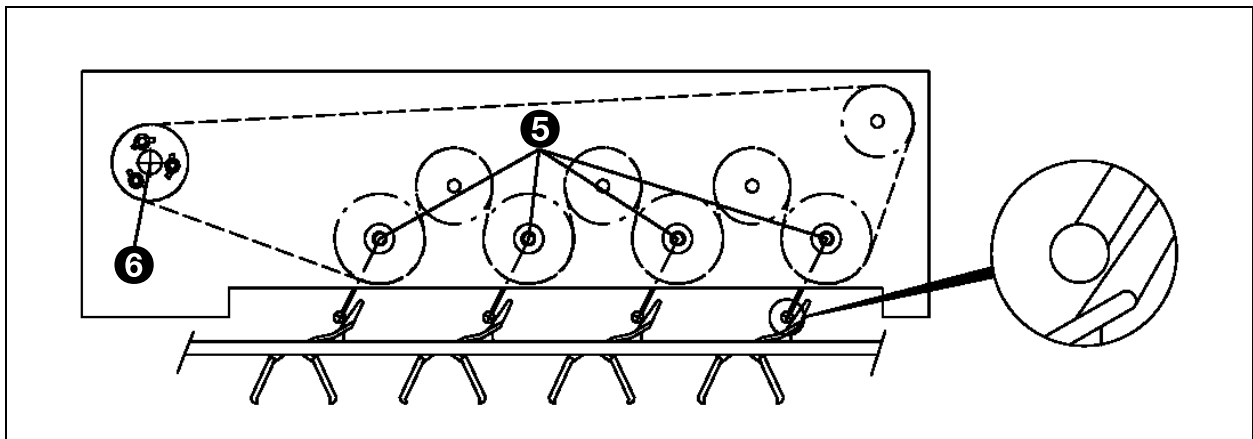

Fig. 133 - Adjustment of transfer unit
6. Loosen the chain-wheel fastening bolt (5) on the closer shaft and adjust the closers (2x) in accordance with fig. 133.
*Once the individual closers have been adjusted the closing time of all the closers can be adjusted in 1 go with the adjustable chain-wheel (6), see fig. 133. The narrowest carrier must then be set to 1 mm.*